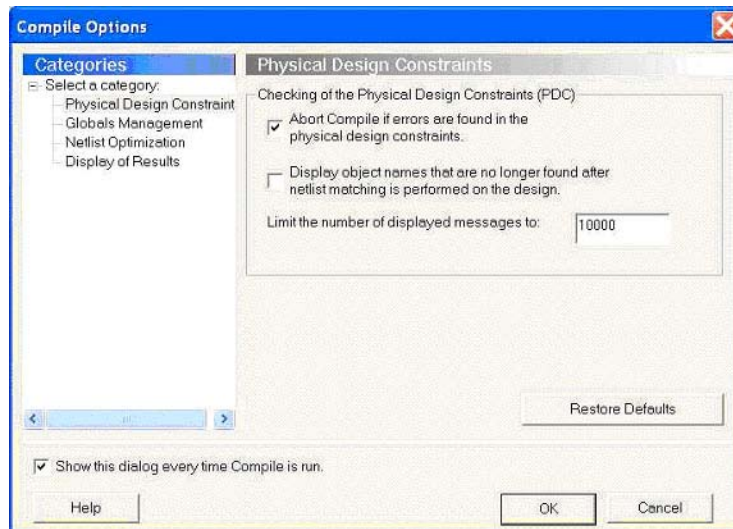

Figure 7-31 • Compile Options Window
4. Click the **Compile** icon. Leave the default Compile settings (Figure 7-31) and click **OK**.